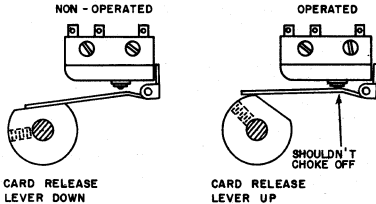

Figure 25
- Lower the card table, tighten screw (A), and put the card release lever down. The card release Microswitch must be non-operated and the operating arm of the switch on the low dwell of the cam (Figure 25). Loosen the cam's set screw and locate the cam flush with the end of the shaft. Position the operating arm on the cam's low dwell and tighten the set screw. The switch should operate, as the card release lever is raised, just before the operating arm is moved to the high dwell. Form the operating arm to obtain the adjustment. Be sure that the switch operating arm doesn't choke off between the cam and the contact button when the card release lever is up. There should also be freedom of movement when the operating arm is on the low dwell so the contact button is not partially operated.